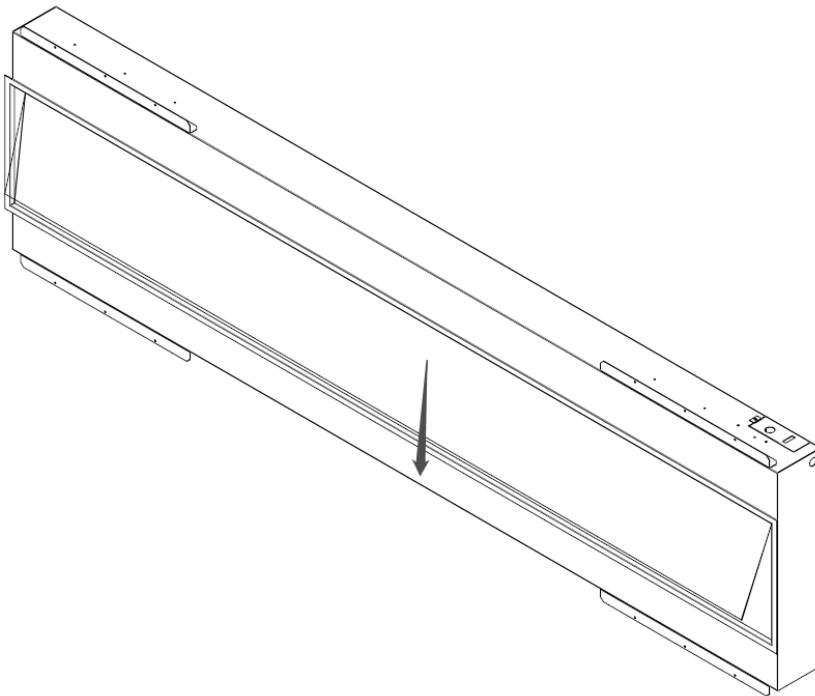

Figure 2.2
4. Slide the glass down in to the bottom channel. See Figure2.2